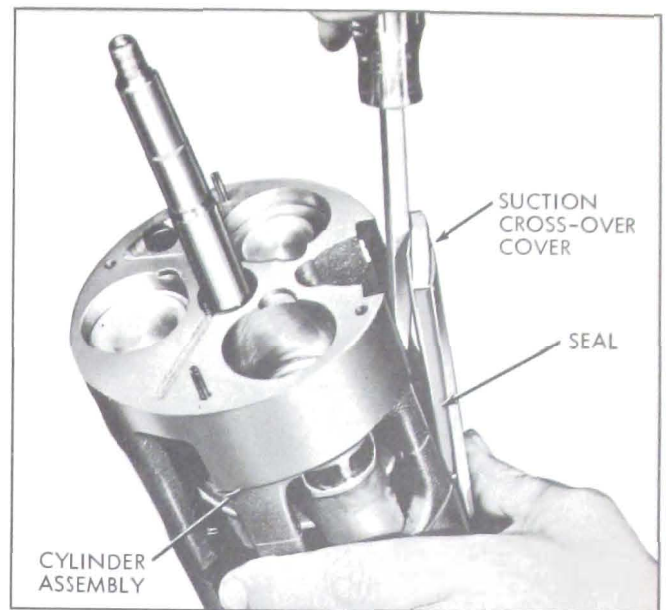

Figure 11-100—Removing Suction Crossover Cover
1. Remove suction crossover cover as shown in Figure 11-100 and discard seal on cover.